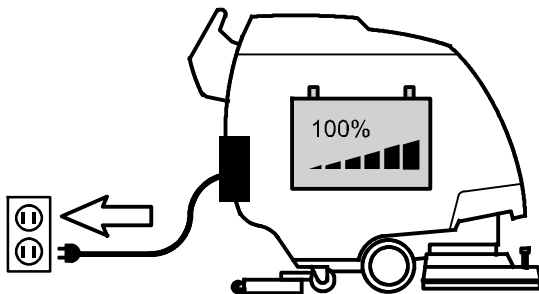

Fig. 5
1. Fully charge batteries prior to using the battery watering kit (Figure 5). Refer to the Machine's Operator Manual for charging instructions.